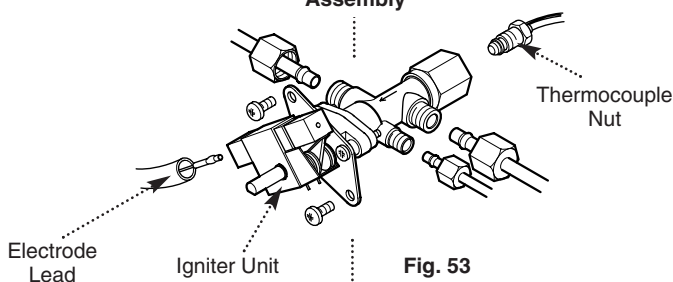

Fig. 53
3. Undo the thermocouple nut from the base of the gas tap, and disconnect the three gas pipes from the tap body (Fig. 53).
4. Disconnect the electrode lead from the igniter unit (Fig. 53).
5. Undo the two screws holding the gas tap to its bracket. Remove the tap, slackening the gas pipes at their other connections if necessary (Fig. 53).